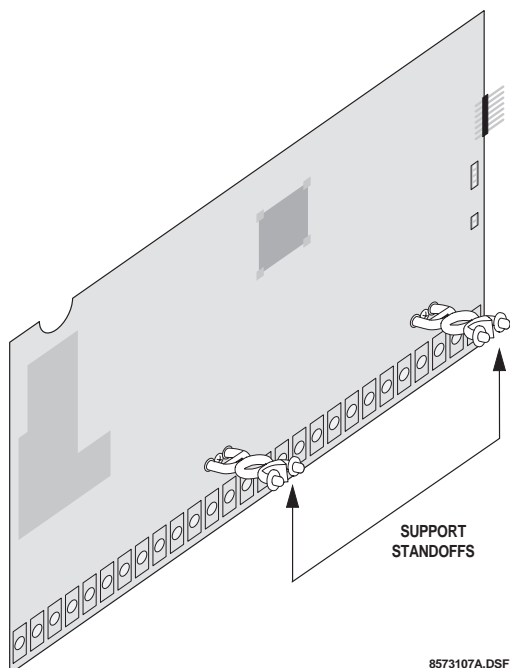

Figure 23. Installing the Support Standoffs (Hardware Panel Shown—Combination Hardware/Wireless Panel Similar)
- ❑ Install the standoffs at the locations shown in Figure 23.
- ❑ The cabinet has built-in mounting clips on the top and sides that module backplates slide onto for mounting (see Figure 23).